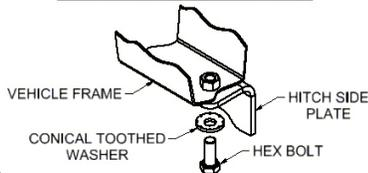

FIGURE 3
10. Install the safety chain U-bolt assemblies as shown in **FIGURE 3**, ensure they sit flat when in the lower position and slide easily without binding. Enlarge holes as needed for proper operation. Deburr holes and spray exposed metal with rust inhibitor. The nuts should be tightened until flush with the bottom of the U-bolt.